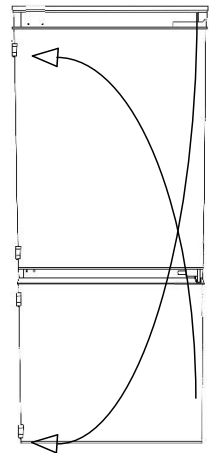

Fig. 13
6. Flip the top hinge 180 degrees and reattach the the hinge on the diagonally opposite corner of the appliance cabinet as shown in fig. 13